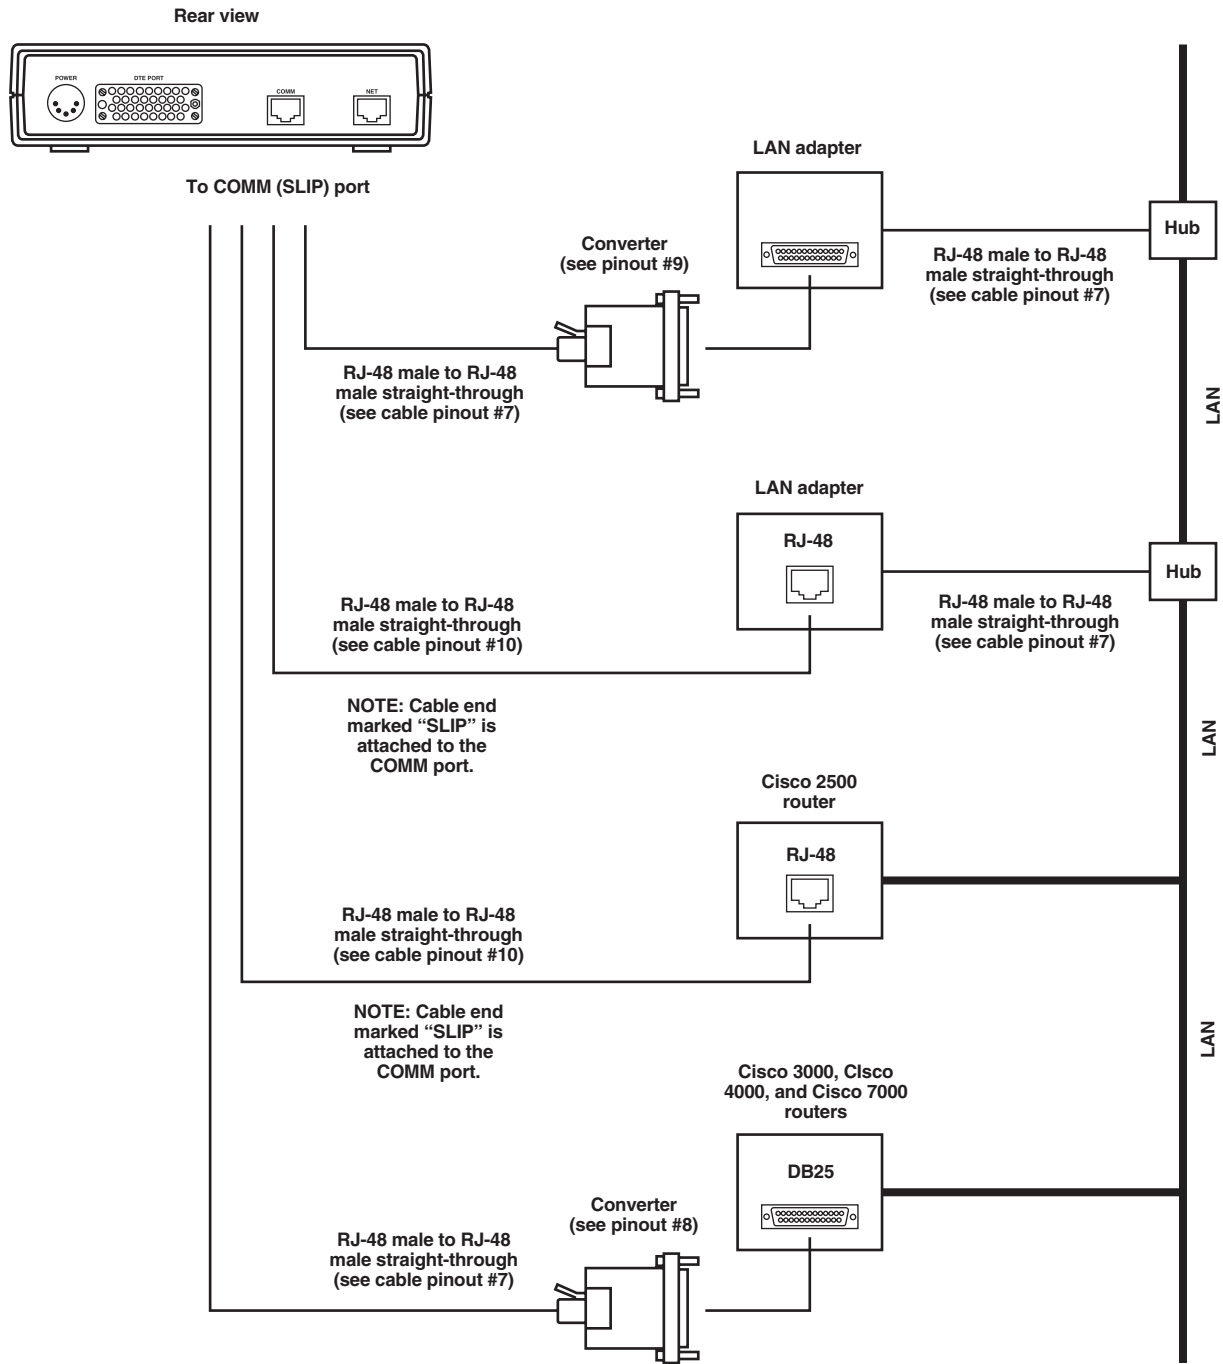

Figure A-2. Common SLIP port cabling configurations.
- Figure A-2 illustrates SLIP port cabling configurations.